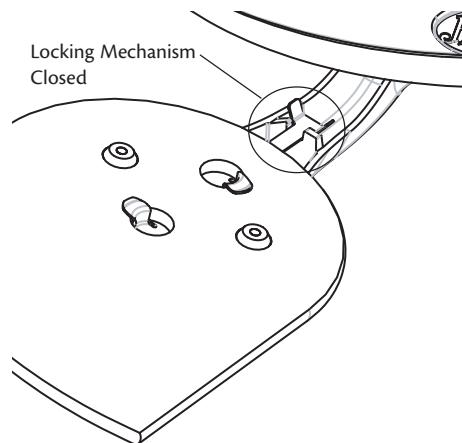

Figure 24 - Installing the blade
- Align the holes in the blade with the blade iron as shown in Figure 24.